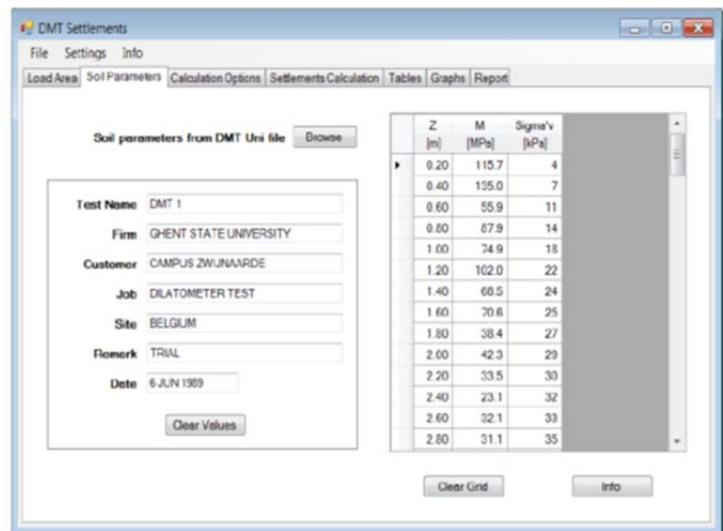

Fig. 4. Assign Soil Parameters (“DMT Settlements”)
2. **Soil Parameters:** define the soil in terms of modulus and vertical effective stress (Fig. 4).